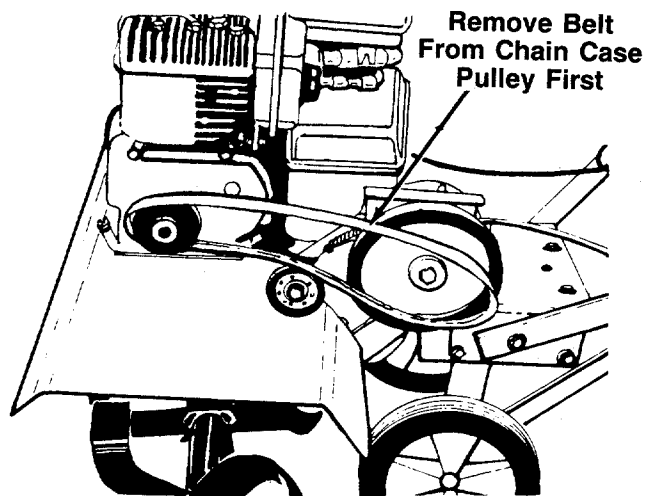

FIGURE 26.
5. Belt must be over top of idler pulley. See figure 26. Slip end of belt over the chain case pulley.